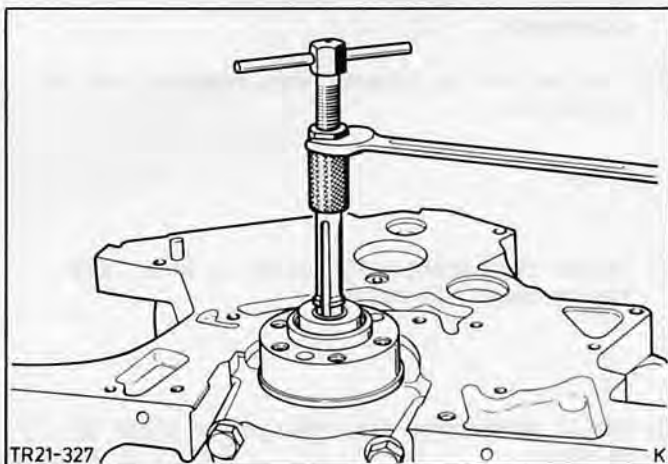

Fig.37. Withdraw pilot bearing with special tool 21-036.
23. Using special tool 21-036, draw pilot bearing out of the crankshaft, Fig.37.